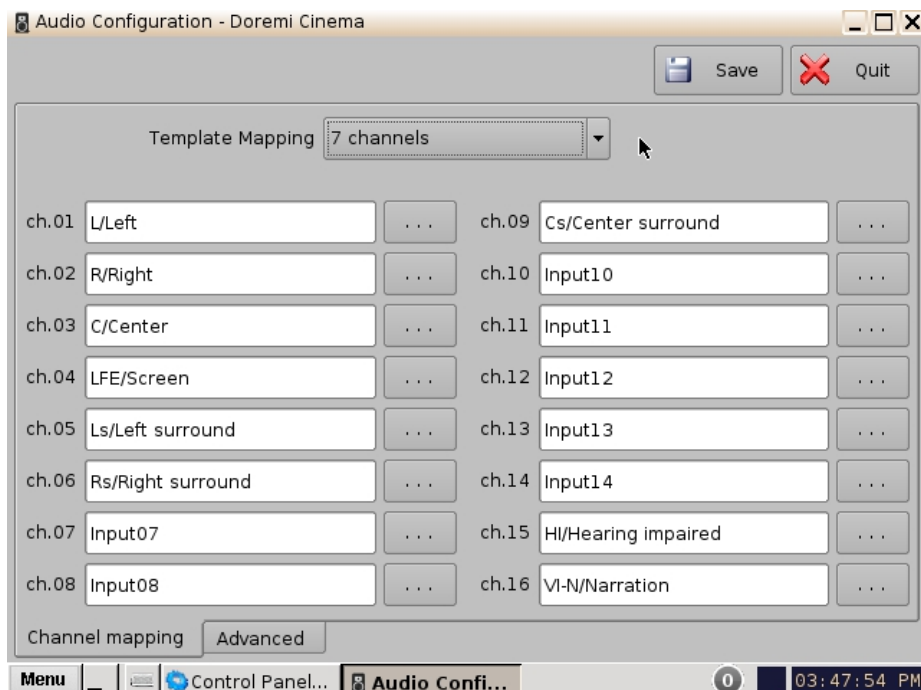

Figure 32: Audio Mapping Set to 7 Channels
- This configuration is defined as follows (Figure 32):
- **ch.01 is Left (L):** Output ch.01 will be playing the CPL's Left (L) audio channel.
- **ch.02 is Right (R):** Output ch.02 will be playing the CPL's Right (R) audio channel.
- **ch.03 is Center (C):** Output ch.03 will be playing the CPL's Center (C) audio channel.